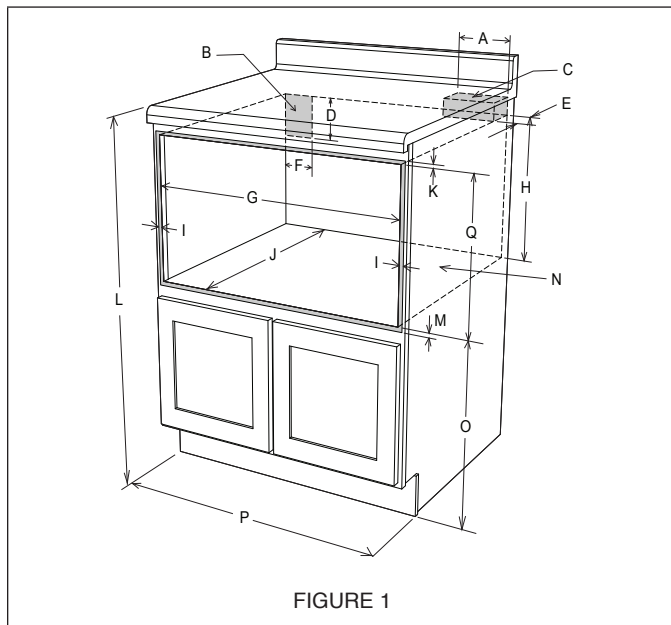

FIGURE 1
- For SAFETY CONSIDERATIONS do not install drawer in any combustible cabinetry, which is not in accord with the stated clearances and dimensions on page 4. See figure 1.
- Dimensions that are shown in figure 1 must be used. Given dimensions provide minimum clearance. Locate electrical outlet in the shaded area in the upper left-hand corner of the cutout. See figure 4.
Figures 1 and 2 contain many Drawer Microwave measurements for reference when planning the drawer's location.
- To reduce the risk of tipping of the drawer, the Anti-Tip block must be properly installed located 14-13/16" above the floor on which the appliance will sit. The 6" Anti-Tip block must be provided by the installer. See figure 1 and 3. The Anti-Tip block prevents serious injury that might result from spilled hot liquids.